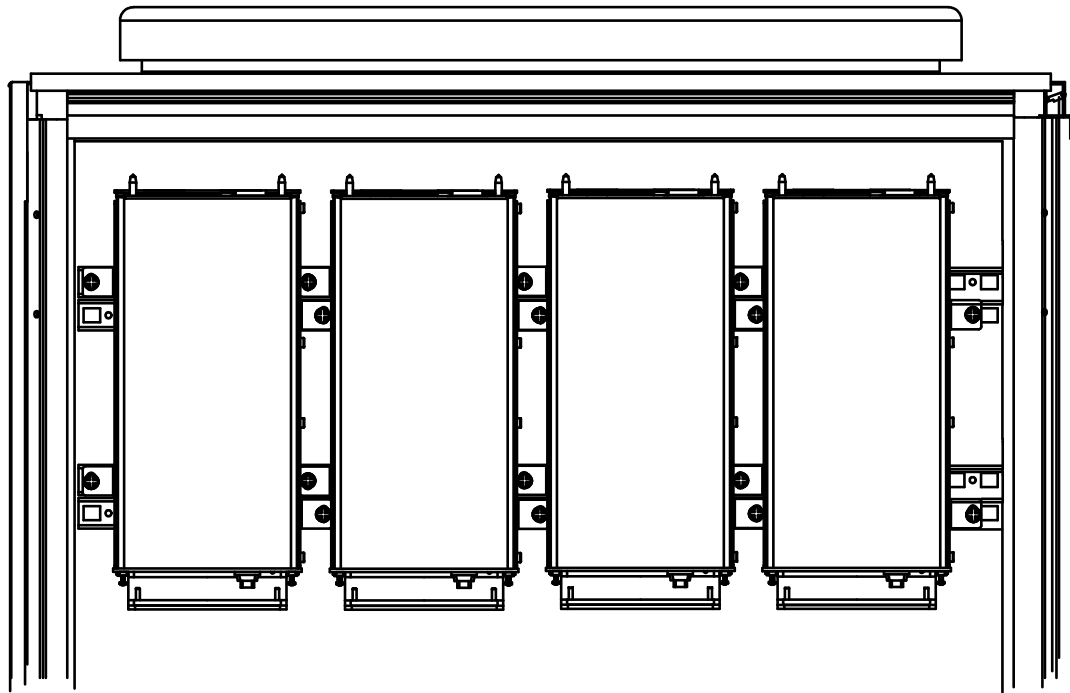

Figure 6: Four Power Supply Units Vertically Secured in the 800 mm Wide Control Cabinet
- If the four power supply units are mounted vertically on the profile rails, they can be located adjacently to one another in an 800 mm wide control cabinet, see Figure 6.